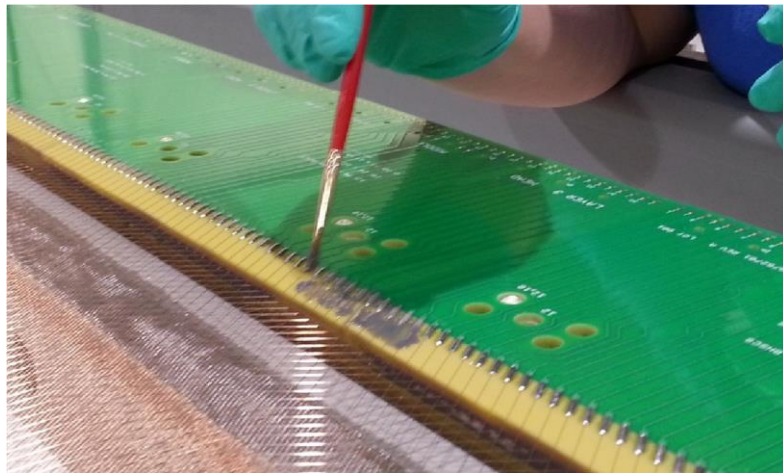

Figure 6 – Applying epoxy to the end wires of each head board.
- 9.2.5 Dispense a small amount of 2216 epoxy into the small plastic cup. Using a brush, apply a coat of epoxy to the five outer wires and solder pads on the current board and the board ahead of the one that you are applying to (*see figure 6*). Take care to avoid getting epoxy into the gap between boards, and immediately remove the epoxy from between the gap if it occurs.
- 9.3.3 Dispense a small amount of 2216 into the small plastic cup. Using the acid brush, apply a coat of epoxy to the four outer wires / solder pads on each previous layer head board (*see figure 6*). **At the left side V layer head board (8760-116) apply epoxy ONLY to the last 5 pads of the shortest wires, and DO NOT APPLY EPOXY TO THE WIRES.** Take care to avoid getting epoxy into the gap between boards, and immediately remove the epoxy from between the gap if it occurs.
- 9.4.3 Dispense a small amount of 2216 into the small plastic cup. Using the acid brush, apply a coat of epoxy to the four outer wires / solder pads on each previous layer head board (see figure 6). **At the right side U layer head board (8760-123) apply epoxy ONLY to the last 5 pads of the shortest wires, and DO NOT APPLY EPOXY TO THE WIRES.** Take care to avoid getting epoxy into the gap between boards, and immediately remove the epoxy from between the gap if it occurs.